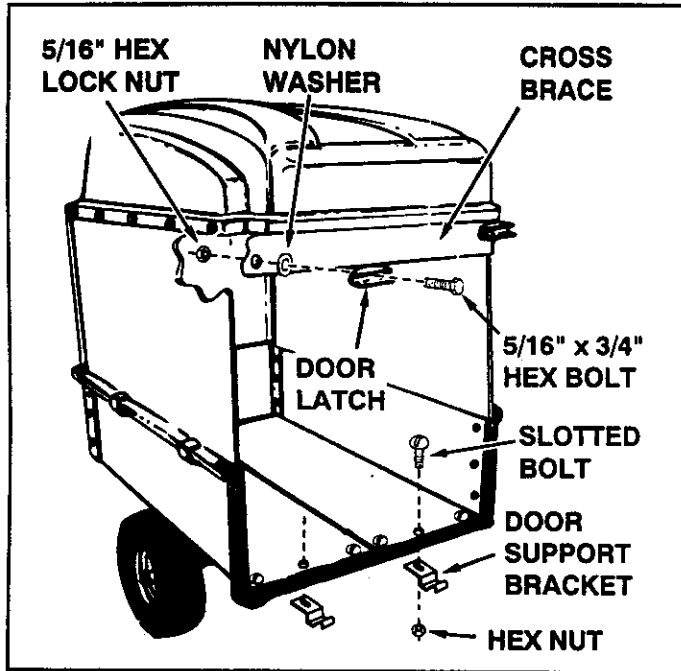

FIGURE 18
- Assemble a door latch at each end of cross brace using a 5/16" x 3/4" hex bolt, a nylon washer and a 5/16" hex lock nut. Place nylon washer between door latch and cross brace. Tighten so that latch is snug but will still rotate. See figure 18.
- Assemble door support brackets underneath the rear of the cart bed by removing the hex nuts from the bolts shown in figure 18. Fasten the brackets to the cart using the same hex nuts which were removed.